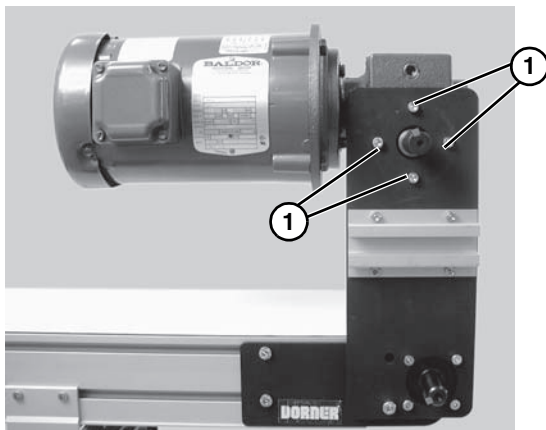

Figure 18
6. Remove four (4) gear reducer mounting screws (**Figure 18, item 1**). Remove gearmotor.
12. Install gearmotor to mounting bracket and tighten screws (**Figure 18, item 1**) to 110 in-lb (12 Nm).